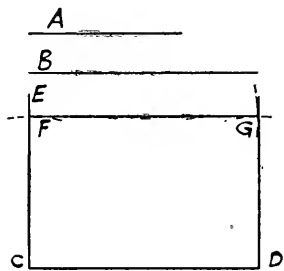

Fig. 610
17. *To draw an oblong or rectangle with given sides, as A and B (Fig. 610).*—Make CD equal to B. At C erect a perpendicular CE. From C with radius equal to A describe an arc cutting CE in F. From D with radius equal to B, and from